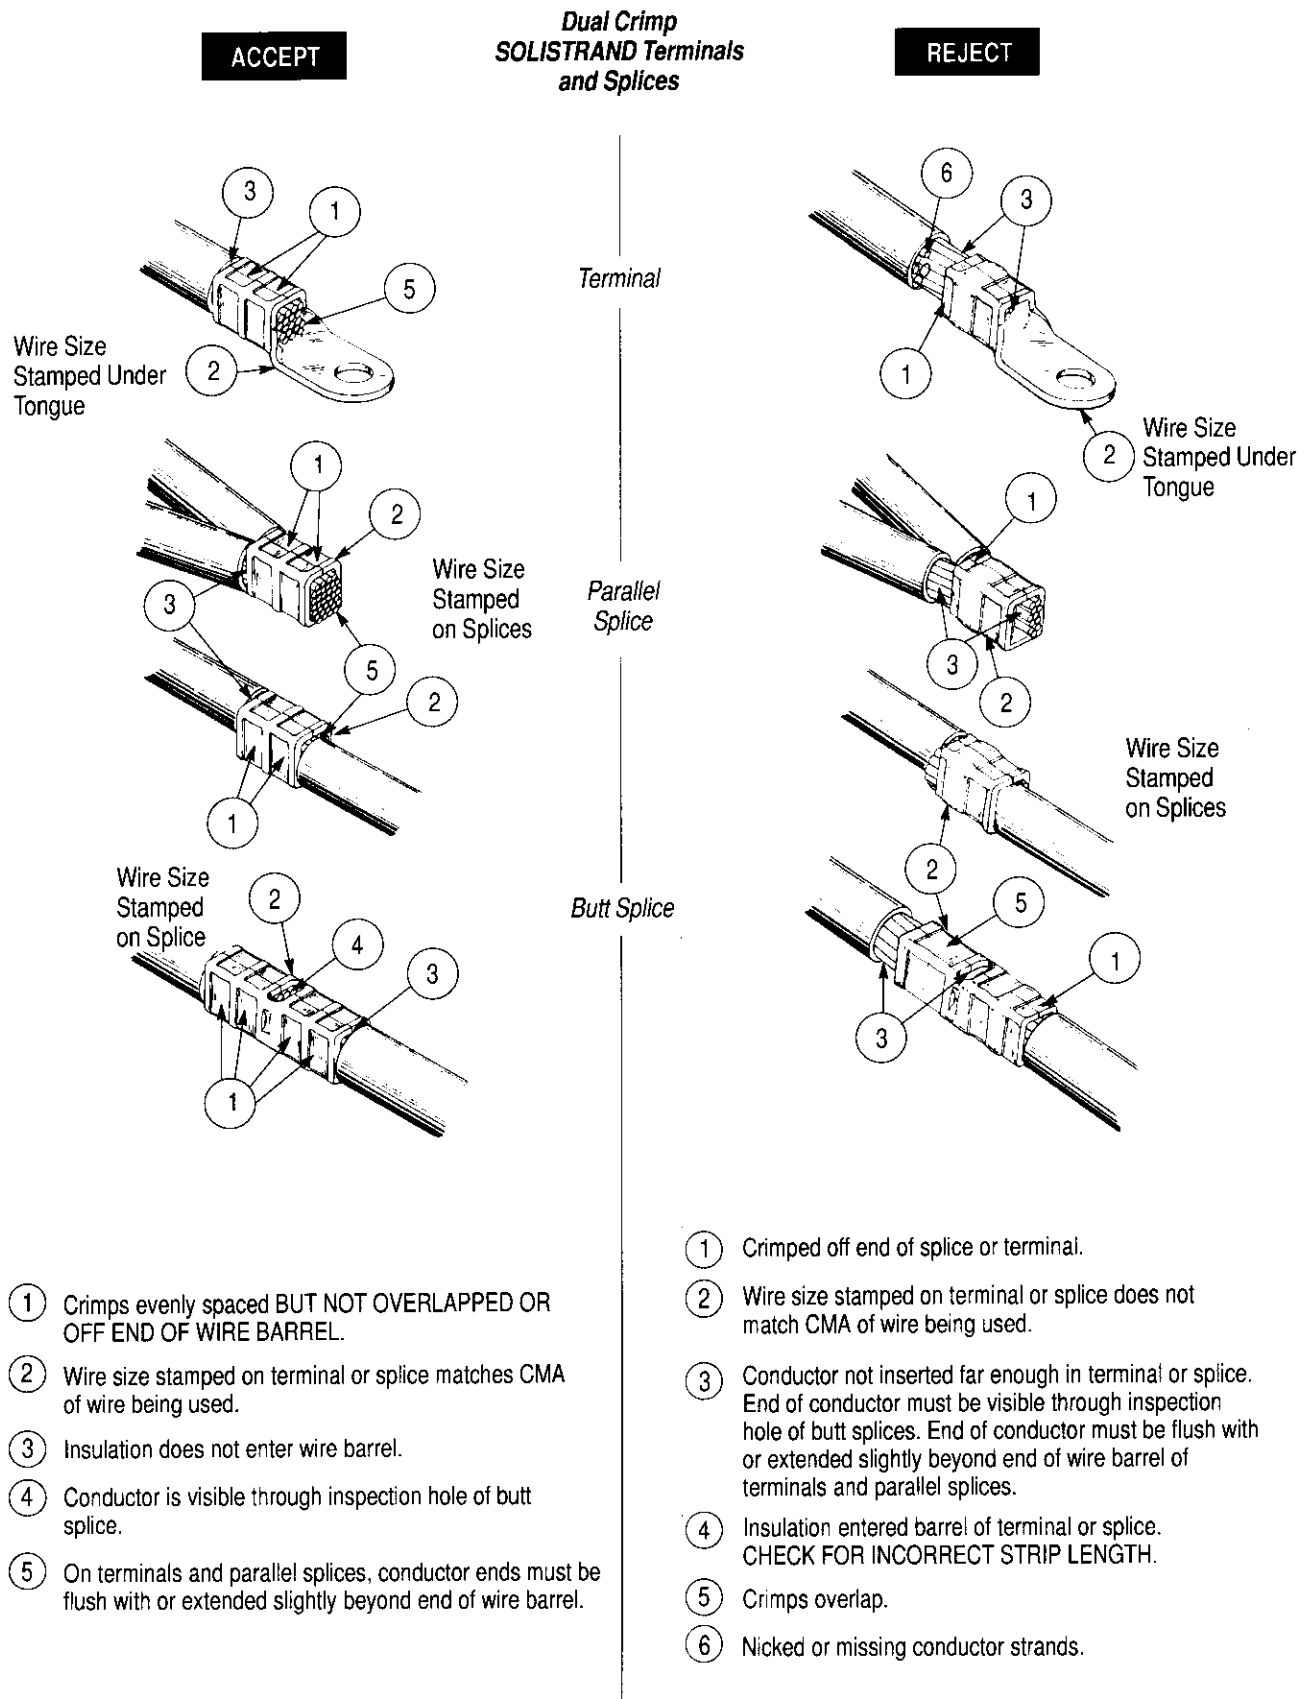

Figure 8
9. Refer to Section 6 and Figure 8 for crimp inspections.
5. Refer to Section 6 and Figure 8 for crimp inspections.